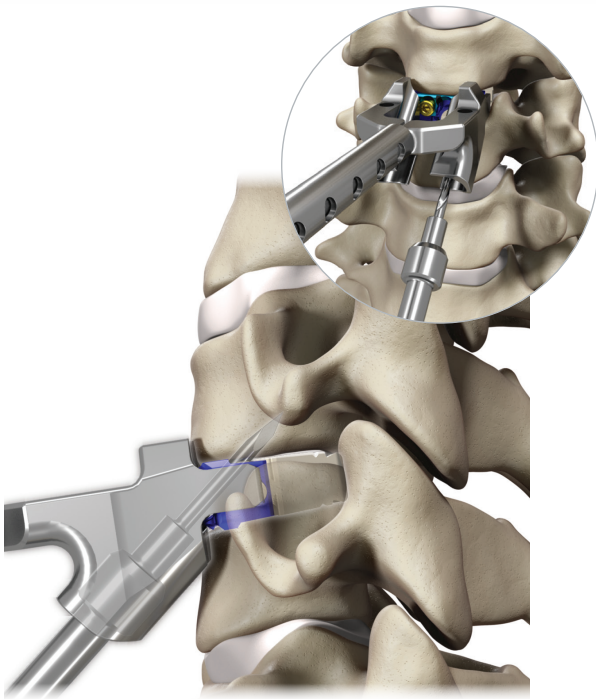

Figure 28
- Assemble the awl/drill to the modular spin cap handle. Create a pilot hole for the first lateral screw hole by placing the awl/drill through the guide hole of the ATO inserter guide until the positive stop contacts the ATO inserter guide. The awl/drill will create a pilot hole 6 mm deep on the screw hole axis (40°). Intra-operative imaging should be used to verify awl/drill position and to determine the appropriate length screw. Remove the awl/drill. Repeat the same steps on the contralateral side (Figure 28).